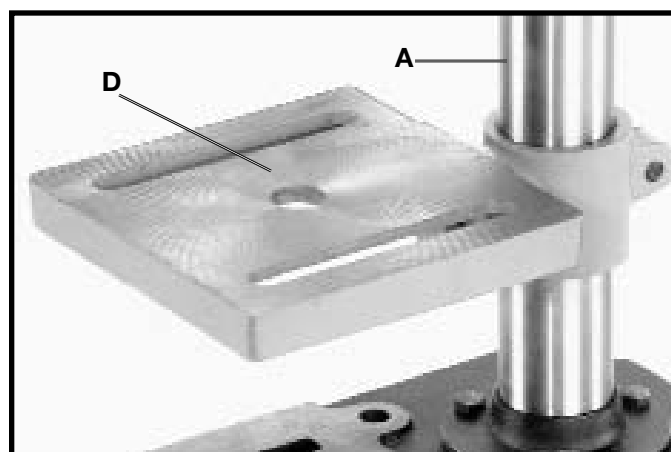

Fig. 4
2. Assemble the table (D) Fig. 4, to drill press column (A) as shown.